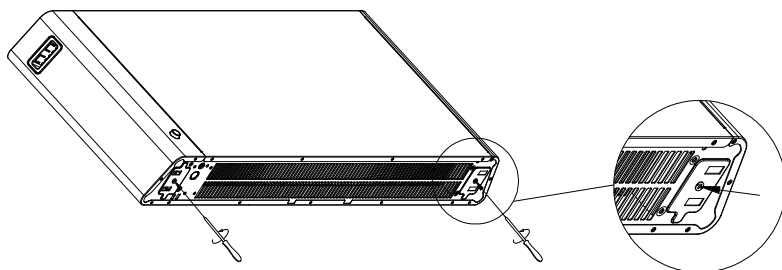

Fig.1
1. Use a screwdriver to remove the two screws at the bottom of the product. (Fig. 1)